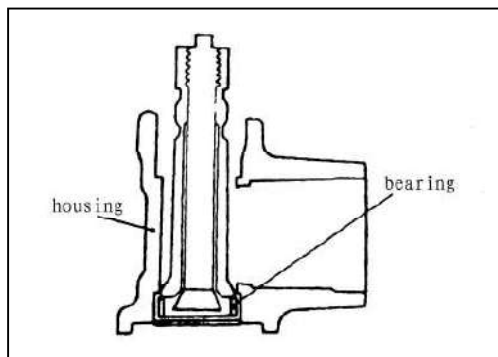

Fig 17-31
8) NEEDLE BEARING REMOVAL(See fig 17-31)